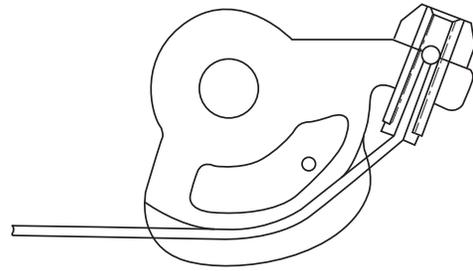

Figure 4. Type P314 Cable Attachment
**Type P314** – On Type C404-32 valves, insert the cable through the hole in the operating lever until the fuse link portion fits tightly in the hole, see Figure 4. Make sure the cable runs through the slotted portion of the operating lever.
Rotate the valve's operating lever by hand to the position shown in Figure 4. In this position the valve's cam is just contacting the valve stem and the cable can be attached to the remote operating handle. Check to see that the valve closes properly and that the operating lever returns to its original position. There should be a little slack in the cable.